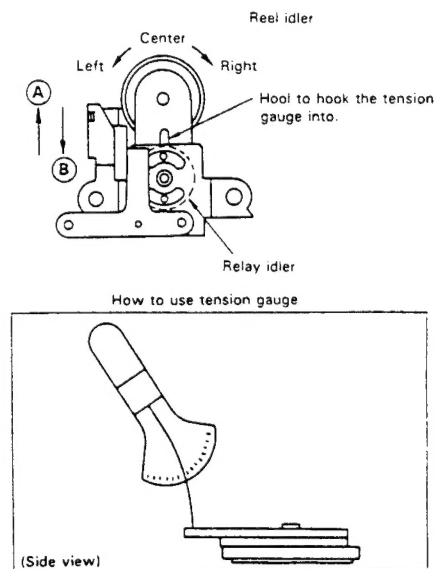

Figure 1-10.
2. Place the reel idler in its center position as shown in Fig. 1-10.